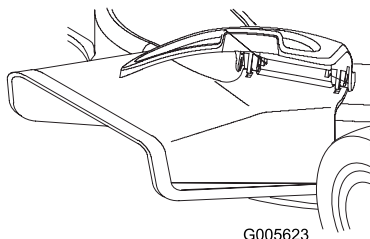

Figure 27
2. Lift up on the side opening cover (Figure 27).
3. Slide the chute over the opening with the slots in the chute lined up with the tabs under the cover (Figure 27).